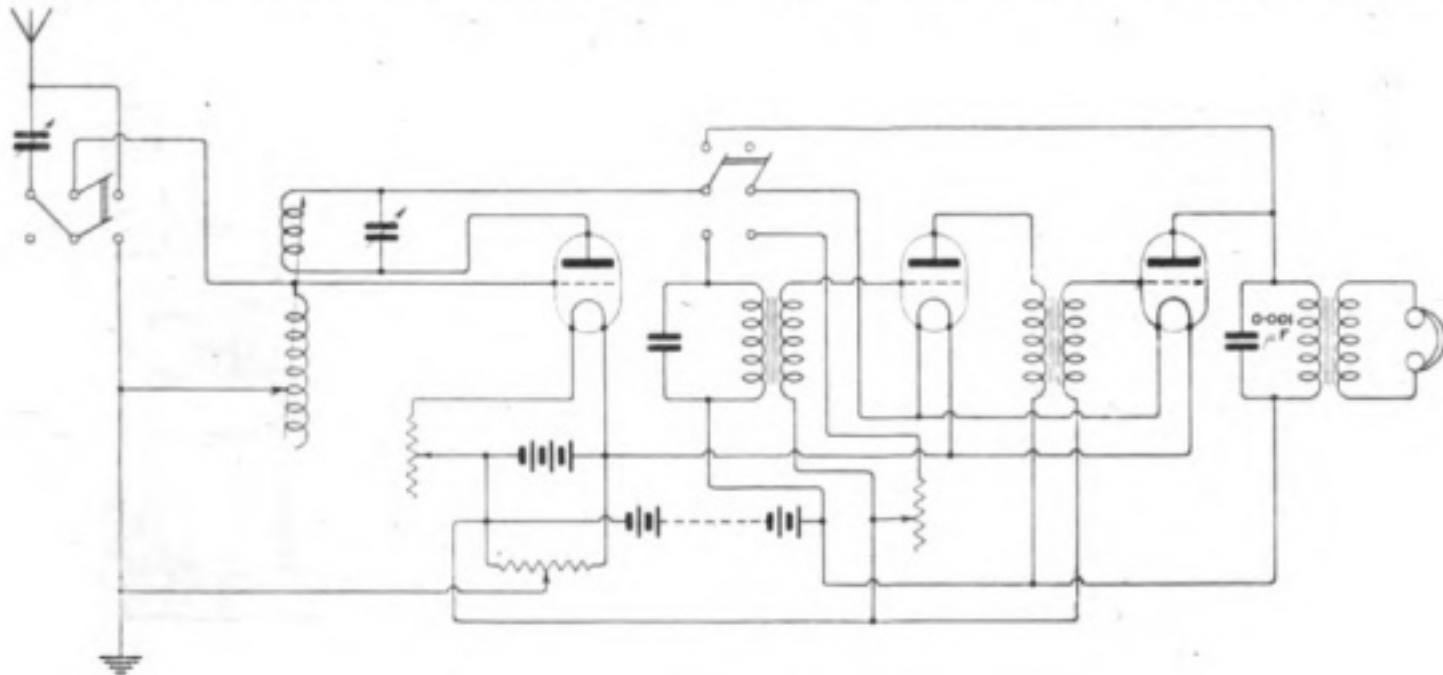

Fig. 4.
(1) See Fig 4. (2) Your diagram is rather involved and somewhat difficult for us to follow. Why have you connected your two condensers in parallel? A closed circuit condenser is much too large for use as a Vernier. The smaller condenser might be used with advantage for tuning reaction circuit and should be bridged across its ends. I think your main trouble is due to inability to tune critically, mainly because your plate circuit is not provided with a tuning condenser. Ebonite extension handles on the condensers would facilitate critical tuning. (3) This is shown in the diagram. For short wave telephony reception it is essential that you should connect the variable condensers in